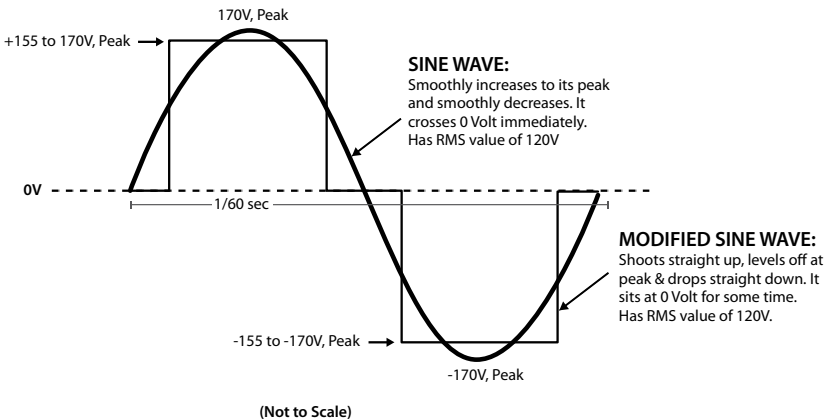

Fig. 8.1: Difference between Sine & Modified Sine Wave Forms.
**Note: 120V is the RMS value of the AC voltage. The peak value of the AC voltage will be equal to the value of the above high voltage. See Fig. 8.1 below.**
The output wave form of the inverter is a modified sine wave (see Fig. 8.1 given below). In a sine wave, the voltage rises and falls smoothly with a smoothly changing phase angle and also changes its polarity instantly when it crosses 0 Volts. In a modified sine wave, the voltage rises and falls abruptly, the phase angle also changes abruptly and it sits at 0 Volts for some time before changing its polarity.
The output wave form of these inverters is a modified sine wave (see Fig. 8.1, page 30). In a sine wave, the voltage rises and falls smoothly with a smoothly changing phase angle and also changes its polarity instantly when it crosses 0 Volts. In a modified sine wave, the voltage rises and falls abruptly, the phase angle also changes abruptly and it sits at 0 Volts for some time before changing its polarity. Thus, any device that uses a control circuitry that senses the phase (for voltage / speed control) or instantaneous zero voltage crossing (for timing control) does not work properly.